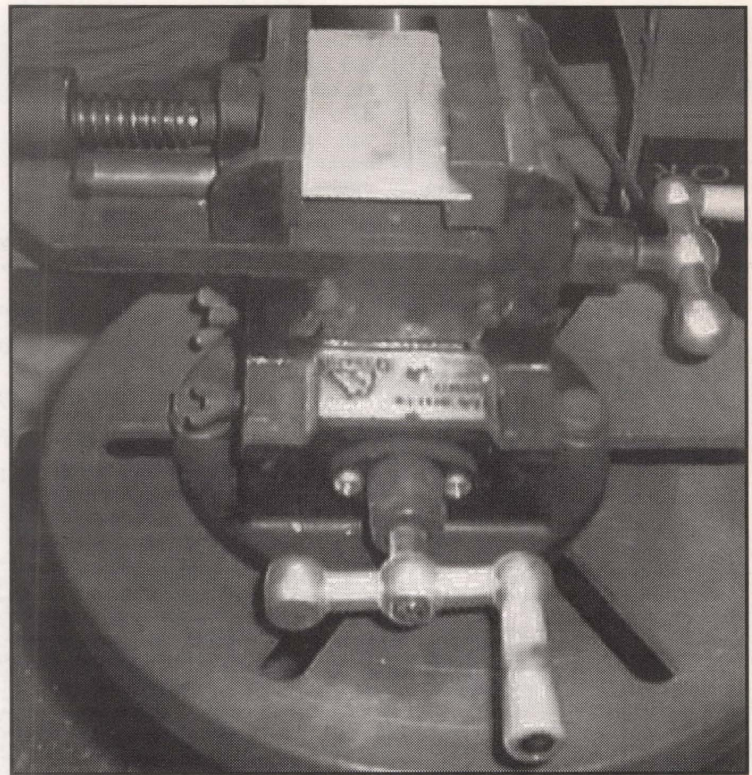

FIGURE 7
Step 5: Drill the board. Of all the steps, drilling your board can end up being the most difficult for some people, simply because the holes are so tiny. Please remember to always wear safety glasses while using power machinery. If you can borrow a friend's drill press, this will make the job much easier. Cheap X-Y vises on the drill press will really make things easier. My drill press has a \$35.00 X-Y vise, seen in Figure 7. The vise is very useful for multiple inline holes. Clamp the board in the drill press, set it to as high a speed as possible, and drill the holes.